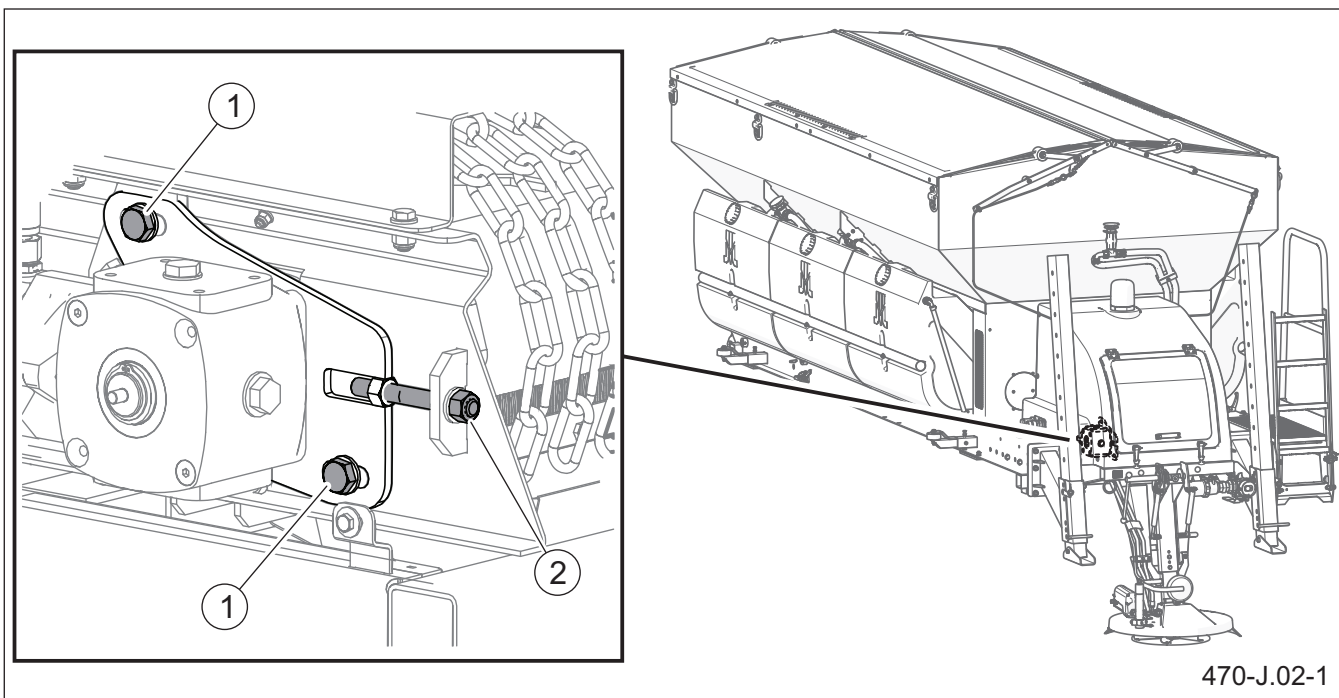

Figure 6.2 Adjustment of drive roller
If the conveyor belt is shifted sideways to the edge of the conveyor drive roller, adjust the roller as needed. The adjustment is made only on one side of the conveyor (Figure 6.2) using bolt (2) by changing the position of
- Loosen nuts (1) and position the belt in the middle of the roller by means of adjusting screw (2).